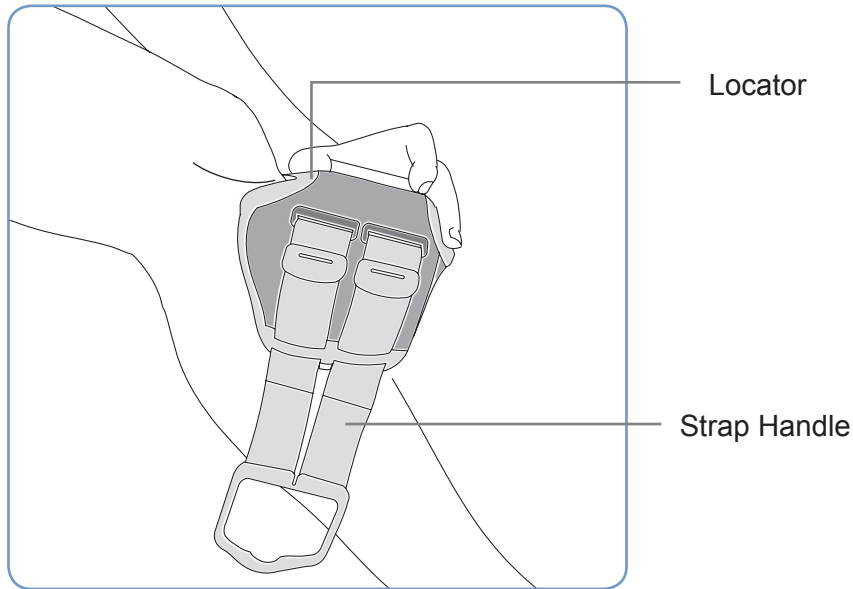

Figure 6: Placing the Orthosis on the Leg
2. Grasp the Orthosis around the cradle area and tilt it towards you, slide the Orthosis up your leg, until the "U" of the Locator reaches the lower part of the kneecap, as seen in Figure 6.